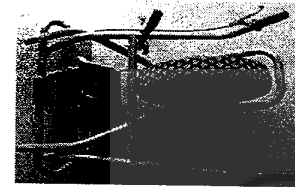
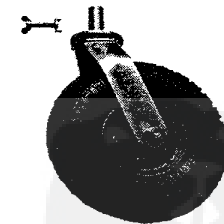

Figure 1
Figure 2
Step 1: Rest the **base module** with handle on the ground (**Figure 1**). Get 2 sets of rear wheels and 2 sets of wing bolts and nuts ready (**Figure 2**).